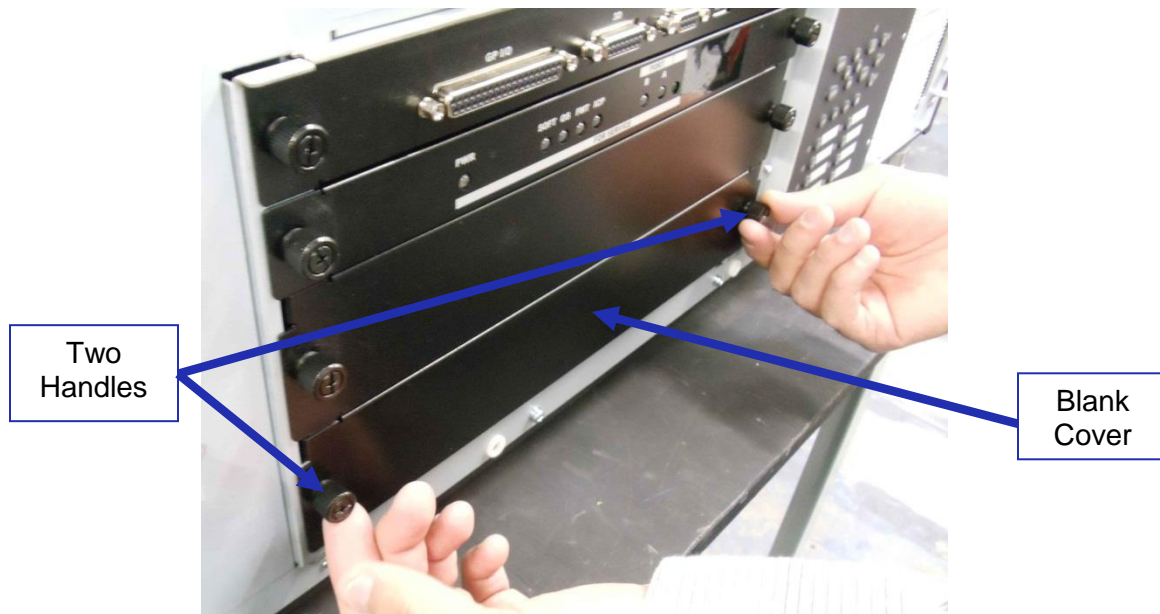

Figure 11: Unscrewing the Slot Cover
- Remove the blank cover of the media block slot by unscrewing the two handles at the side (Figure 11).